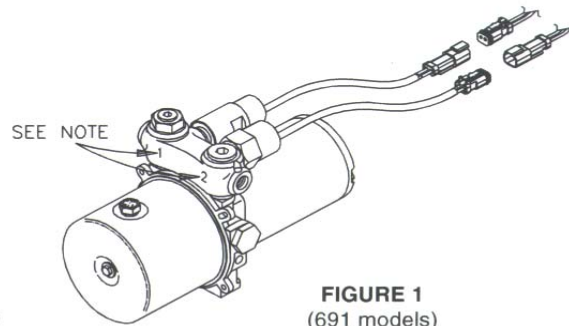
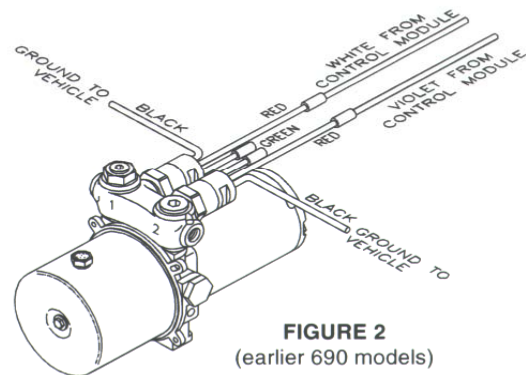
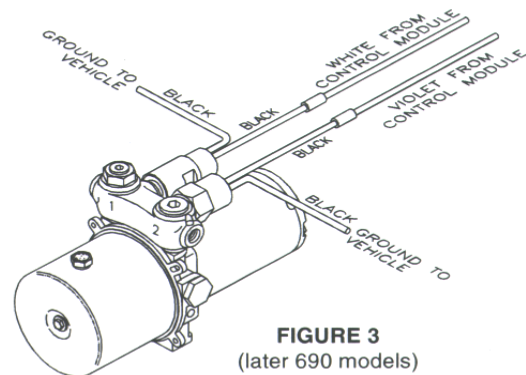

FIGURE 1
FIGURE 2
FIGURE 3
Regardless of manufacture date, the position of the high and low pressure switches have remained the same. See Figure 1, position 1 will always have a pressure switch stamped 1-800 and position 2 will always have a pressure switch stamped 2-10. Be sure to install the correct replacement switch.
2. **691 models:** Reattach wire connectors. See Figure 1.
3. **690 models:** Earlier models of the 690 power unit provided a black wire, red wire, and green wire from each of the pressure switches as shown in Figure 2. These style switches are no longer available. Later models use pressure switches which provide two black wires from each as shown in Figure 3. When replacing pressure switches, either one of the black wires from each pressure switch can be used to connect to ground. Connect the other black wire from the pressure switches to the white wire or violet wire as shown in Figure 3. The pressure switch that connects to the white wire is stamped 1-800. The pressure switch that connects to the violet wire is stamped 2-10. **NOTE: Replacement switches may have connectors similar to FIGURE 1. Remove connectors as needed.**